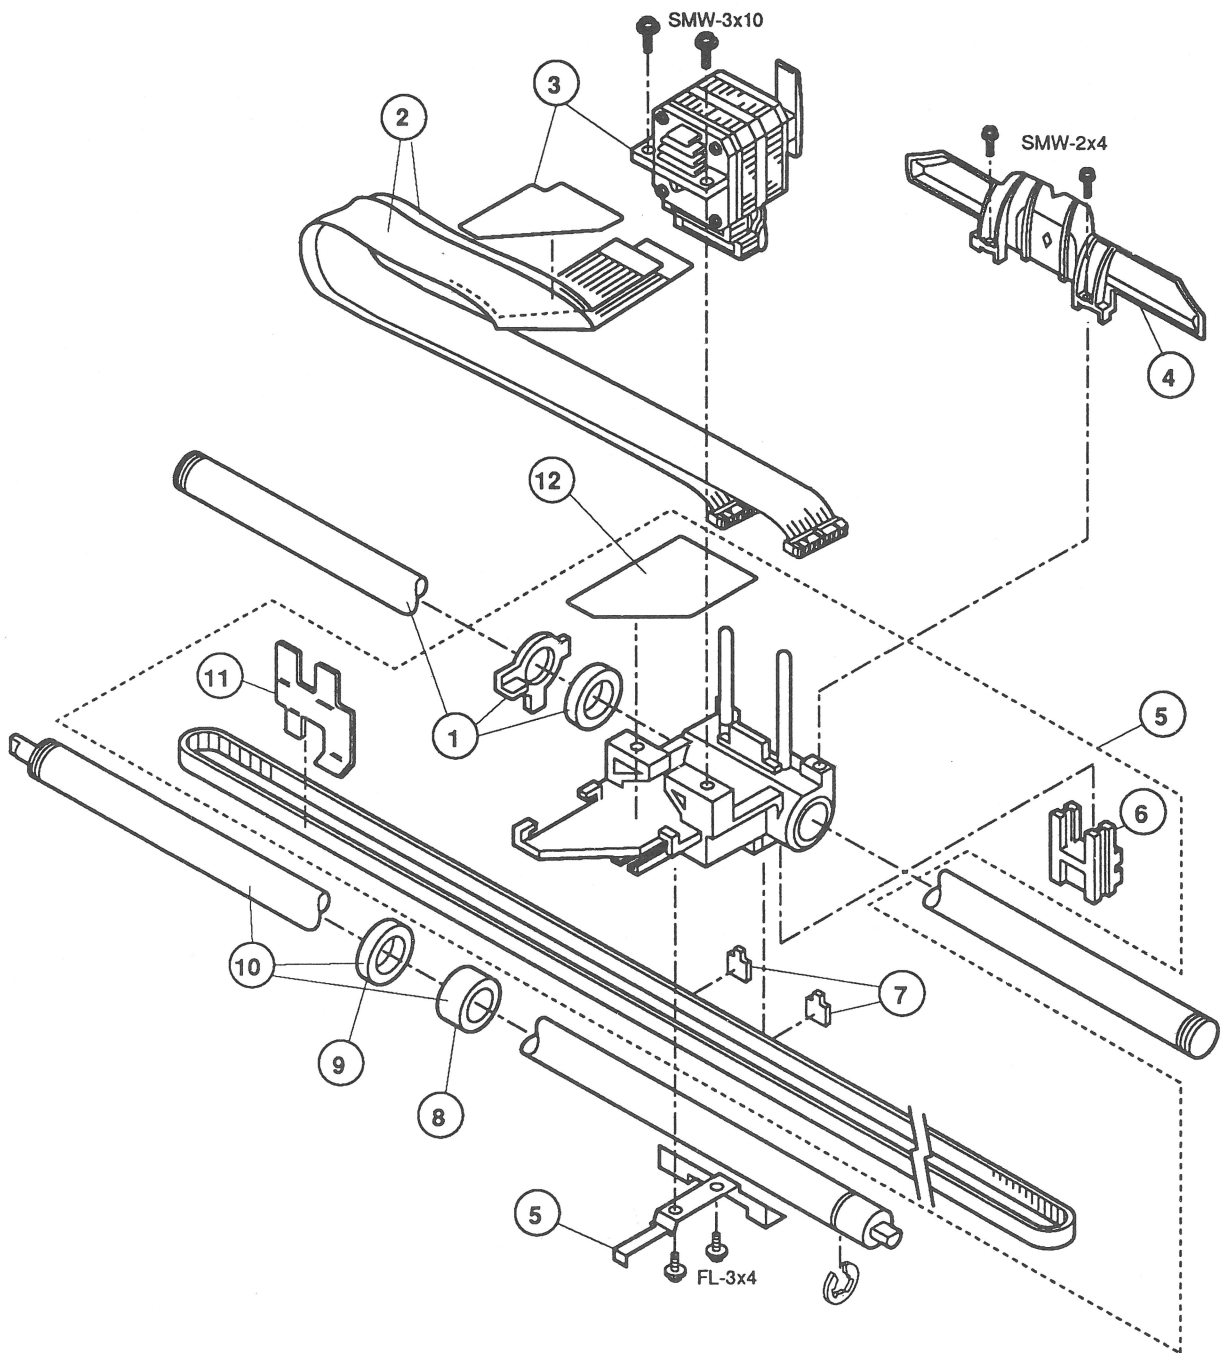

FIGURE 5
□ PRINT HEAD/CARRIAGE ASSEMBLY (Figure 5)